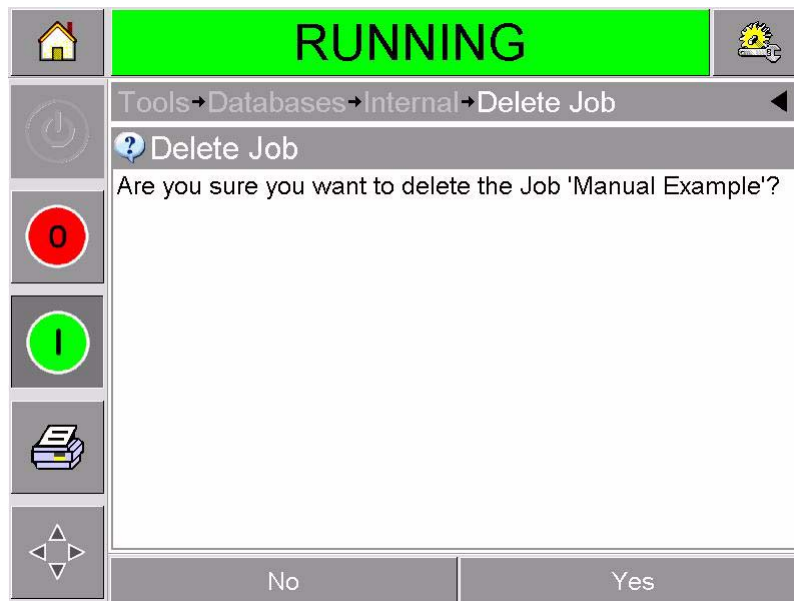

Figure 4-19: Confirmation Screen
- 6 Confirm the job to be removed (Figure 4-19).